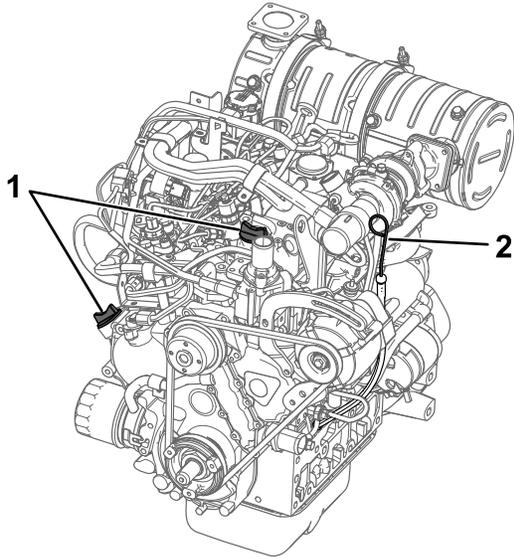

Figure 55
4. Clean the area around the oil dipstick and oil-fill cap (Figure 55).